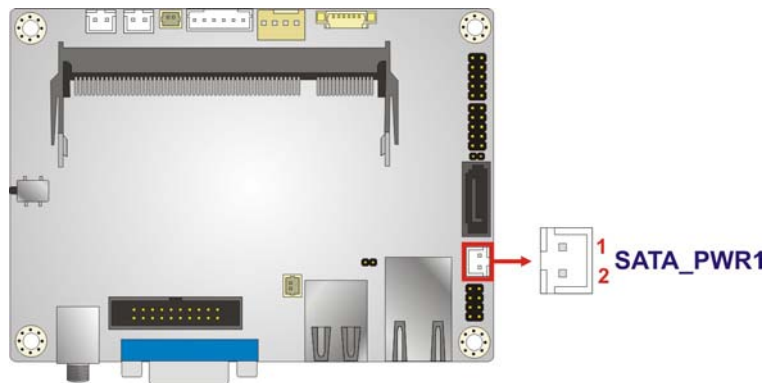

Figure 3-18: SATA Power Connector Location
- CN Location: See **Figure 3-18**